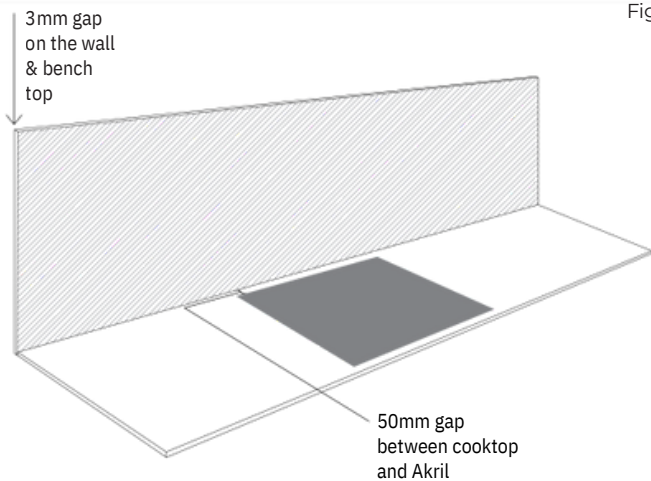

Fig. 2
**Induction** *Figure 2* Akril can be used directly behind induction cook tops, reducing time and hassles associated with colour back glass.
**Electric | Ceramic Cooktops** *Figure 2*